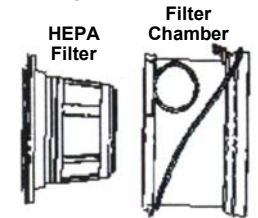

Fig. 9
4. Remove the HEPA Filter from the filter chamber. (fig. 9)